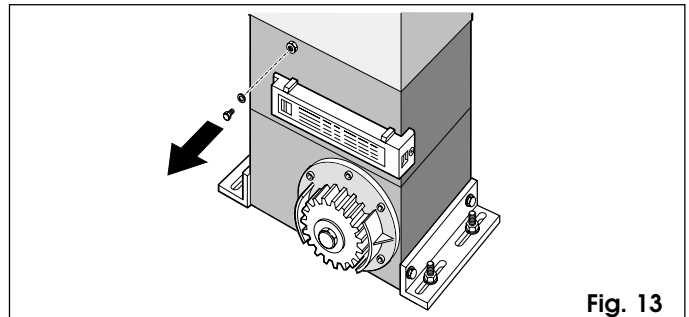

Fig. 13
- 7) Remove and store the breather screw (Fig. 13).